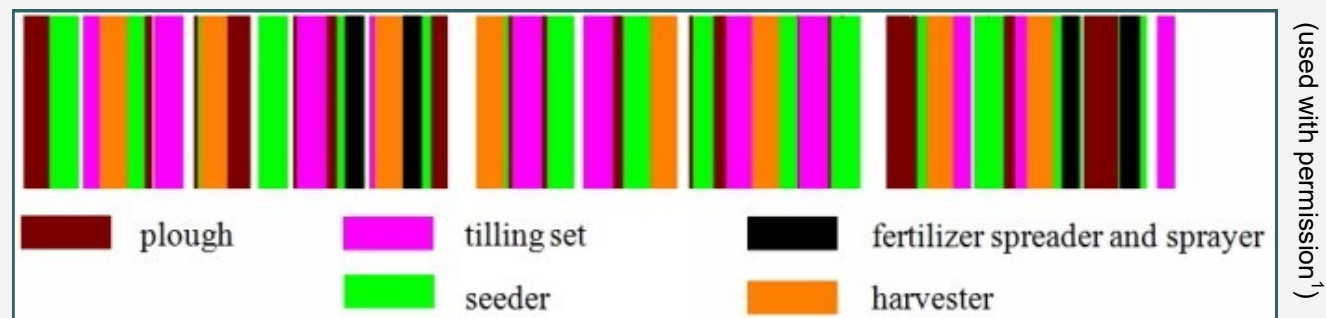

Figure 1: Typical traffic pattern using conventional farming practices of winter wheat cultivation¹
Figure 1: Average seasonal **phosphorus reduction efficiency** (%) of eight wetlands for total phosphorus (TP), total dissolved phosphorus (TDP), soluble reactive phosphorus (SRP), and particulate phosphorus (PP).
- Average TP retention capacity was **7.2 kg/ha/year**, with a reduction efficiency of **39%** (Fig. 1)
- Average PP retention capacity was **3.0 kg/ha/year**, with a reduction efficiency of **13%** (Fig. 1).
- The SRP retention capacity for the other seven wetlands is **5.0 kg/ha/year** with an average SRP reduction efficiency of **71 %** (Fig. 1).